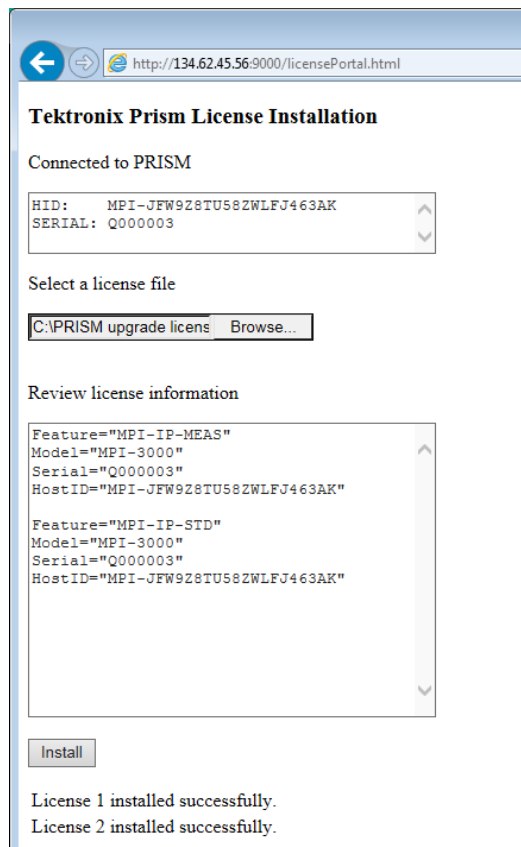

Figure 61: PRISM License Installation Web page – license install message
10. When the license(s) is installed, the bottom of the license installation Web page displays a message that the license was installed successfully. (See Figure 61.)